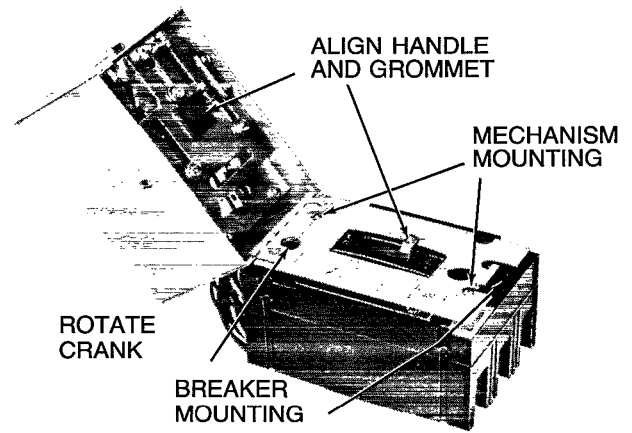
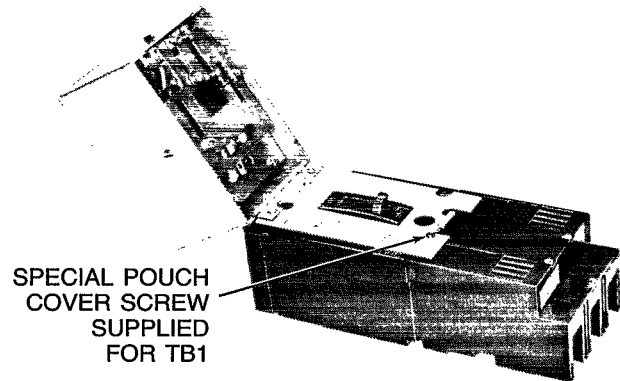
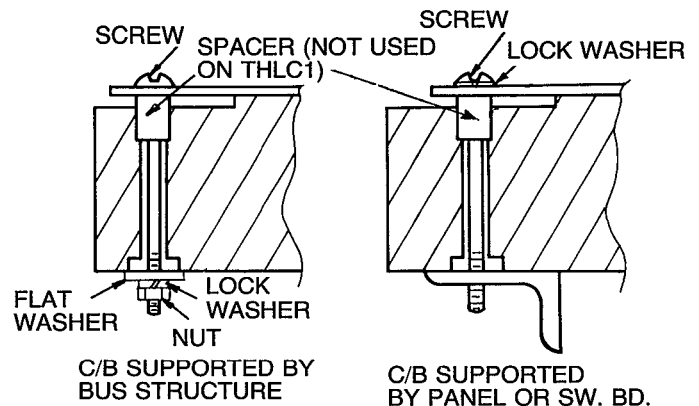
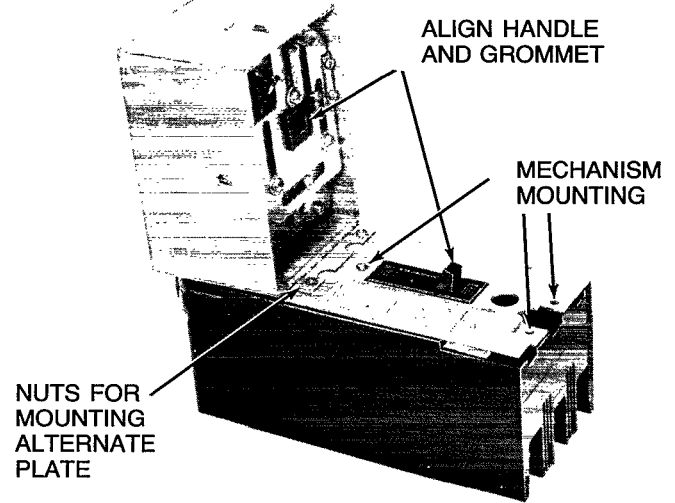

Figure 2
Figure 3
Figure 4
Figure 5
1. Mount circuit breaker using diagonal mounting screw locations (Figure 2).
3. Install motor operating mechanism using the two  $3\frac{7}{8}$  inch long screws and the two  $\frac{3}{4}$  inch long spacers in the remaining diagonal mounting screw locations (Figure 2).\* See Figure 4 for mounting options. For TB1 use the special  $1\frac{3}{8}$  inch long pouch cover screw supplied (Figure 3).
3. Install motor operating mechanism using the two  $4\frac{1}{2}$  inch long screws and the two  $1\frac{5}{16}$  inch long spacers in the remaining diagonal mounting screw locations (Figure 2). See Figure 4 for mounting options.
1. Mount circuit breaker using two mounting screw locations at the line end of the breaker (Figure 5).
4. Install motor operating mechanism using the two 4¼ inch long screws and the ⅜ inch long screw in the remaining mounting screw locations (Figure 5). See Figure 4 for mounting options.